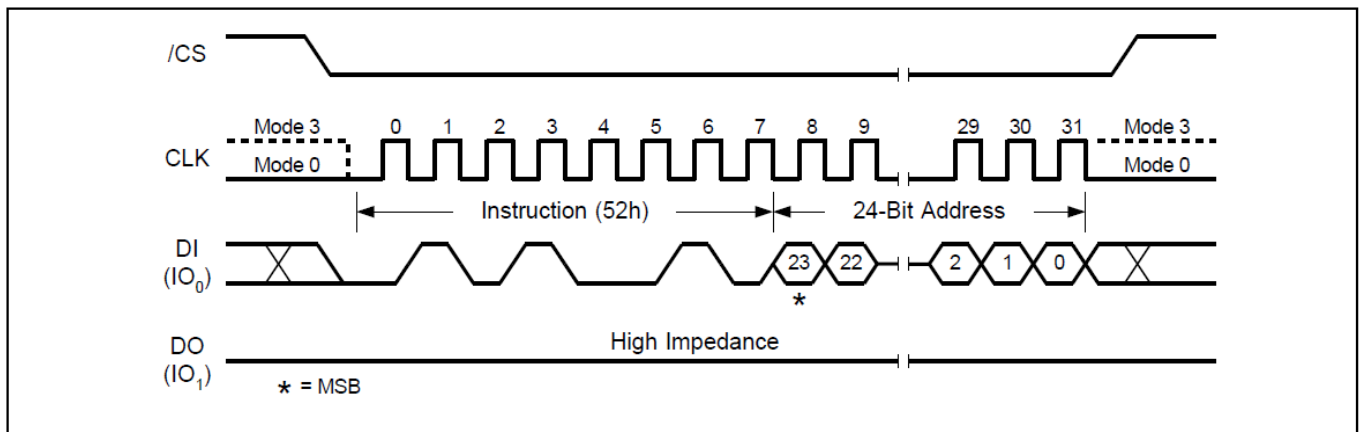

Figure16. 32KB Block Erase Sequence Diagram
The 32KB Block Erase command sequence: CS# goes low → sending 32KB Block Erase command → 3-byte address on DI → CS# goes high. The command sequence is shown in Figure16. CS# must be driven high after the eighth bit of the last address byte has been latched in; otherwise the 32KB Block Erase (BE) command is not executed. As soon as CS# is driven high, the self-timed Block Erase cycle (whose duration is Tse) is initiated. While the Block Erase cycle is in progress, the Status Register may be read to check the value of the Write in Progress (BUSY) bit. The Write in Progress (BUSY) bit is 1 during the self-timed Block Erase cycle, and is 0 when it is completed. At some unspecified time before the cycle is completed, the Write Enable Latch (WEL) bit is reset. A 32KB Block Erase (BE) command applied to a block which is protected by the Block Protect (SEC, TB, BP2, BP1, and BP0) bits (see Table 1-6) is not executed.